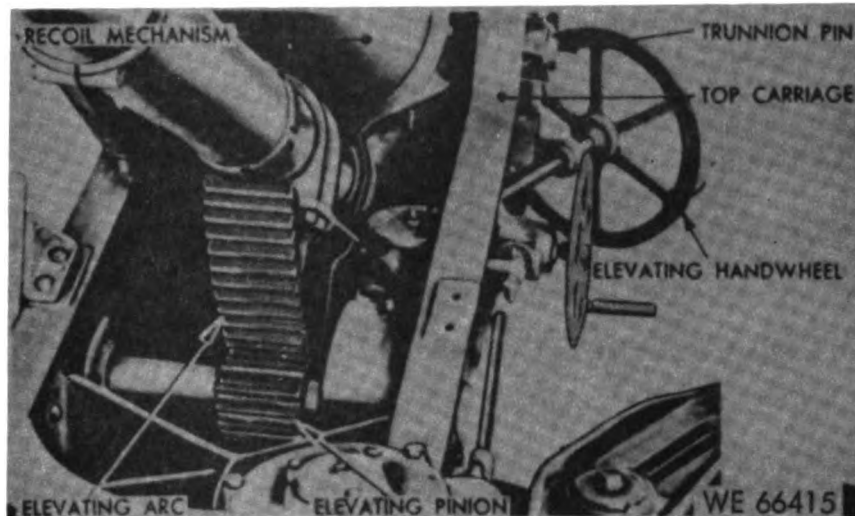

Figure 132. Elevating mechanism—left front view.
(1) The top carriage (figs. 1 and 69) is of welded steel construction. It supports the howitzer and recoil mechanism (fig. 6), the elevating mechanism (fig. 132), the traversing mechanism, the
*a. Elevating Mechanism.* The elevating mechanism controls the movement of the weapon in elevation and depression by tipping the recoil mechanism and cannon on the trunnion pins (fig. 132) secured in the top carriage. Motion of the elevating mechanism handwheel assembly is transmitted through shafts, a flexible joint, gears, a worm, and a worm wheel to the elevating pinion which meshes with the elevating arc, mounted on the underside of the recoil mechanism.